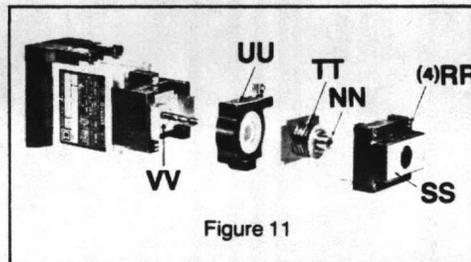

Figure 11
- Loosen 4 captive screws (RR) and remove cover (SS) (Figure 11).
- Remove latch mechanism (TT).
- Lift out unlatch coil (UU) and replace. Do not remove magnet frame (VV).
- Push down and hold latch armature ring (NN) and replace latch mechanism (TT). Release latch armature ring.
- Replace cover and tighten 4 screws (RR).